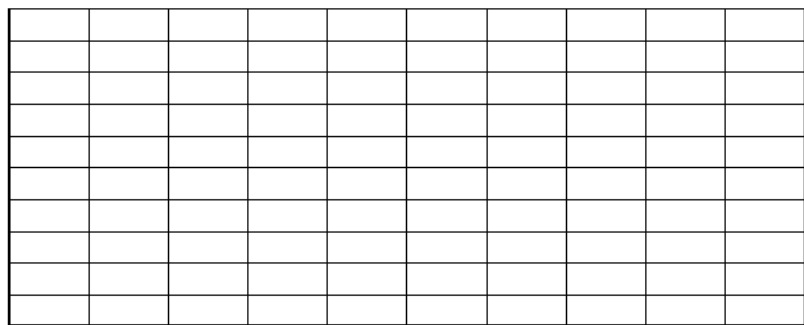

Fig. 17.2.10: Frequency response, bandstop
- Draw the curve of the frequency response in the chart (Fig. 17.2.10).
- Mark the bandwidth and cutoff frequencies on the frequency response curve for the bandstop filter drawn in Fig. 17.2.10.